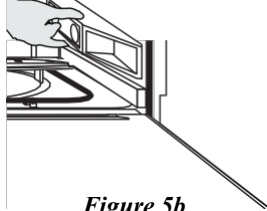

Figure 5b
10. Check that the dishwasher is level from front to back by taking out the lower rack, place level on the lower rack wheel support at the bottom of the tub. See Figure 5b.